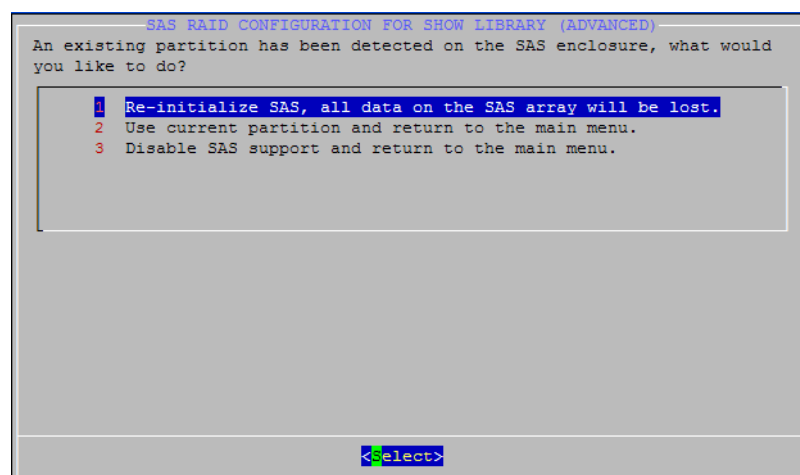
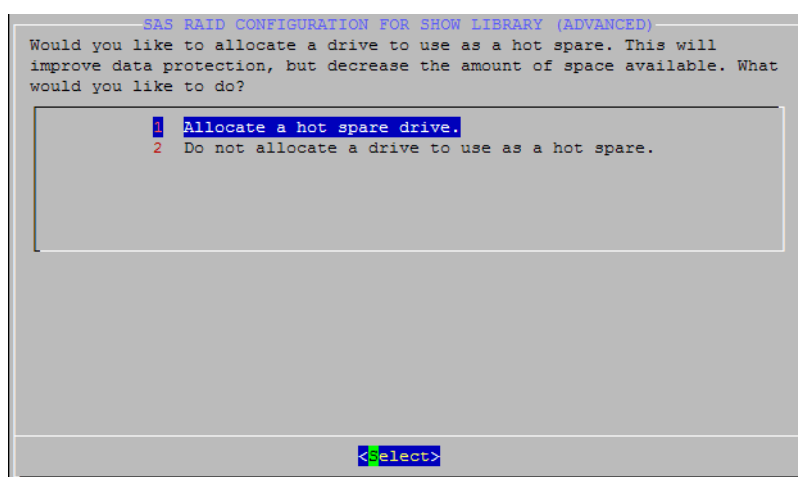

Figure 3-58 SAS RAID Configuration for Show Library (Advanced) Screen: Already Configured
Figure 3-59 SAS RAID Configuration for Show Library (Advanced) Screen
If your system was installed and configured with a SAS external storage device, the **SAS RAID Configuration for Show Library (Advanced)** screen in Figure 3-58 appears. In this screen, you can either reinitialize the SAS and delete all your data, use the existing partition and return to the main menu, or disable SAS support. If you select the reinitialize option, the system displays the **SAS RAID Configuration for Show Library (Advanced)** screen in Figure 3-59.
19. Either do or do not allocate a hot spare drive by selecting the desired option in the **SAS RAID Configuration for Show Library (Advanced)** screen in Figure 3-59, then press <Enter>.